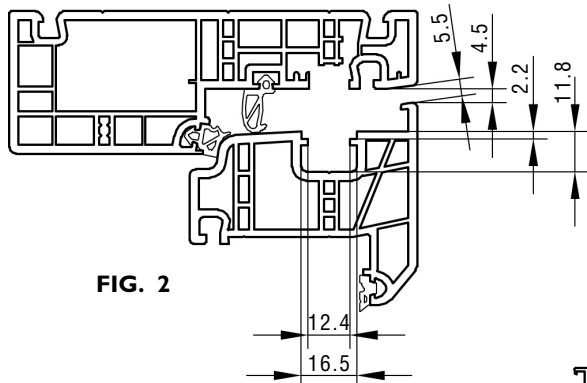

FIG. 2
3. A CUT OUT FOR THE BEARING PLATE IN THE TOP CORNER OF THE FRAME HAS TO BE MADE, AS SHOWN IN FIG. 2 AND 3.